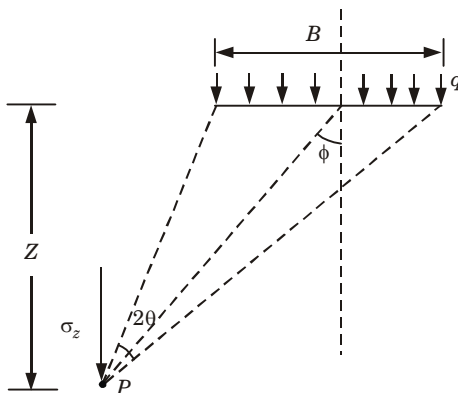

Fig. 4.8.2. Vertical stress due to strip load.
- i. The vertical stress (σ_z) at a point P , due to a uniform load of intensity q on strip of width (B) and semi-infinite length (Fig. 4.8.2) is given by,